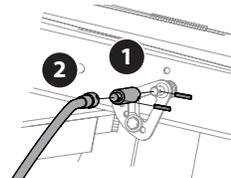

Figure 7
- Connect shaft adapter (711-07101) to discharge shaft assembly (680-01596) with a roll pin (715-04137). See (1) in Figure 7.
- Connect flex shaft assembly (611-05567) to shaft adapter (711-07101) and secure with a roll pin (715-04137). See (2) in Figure 7.